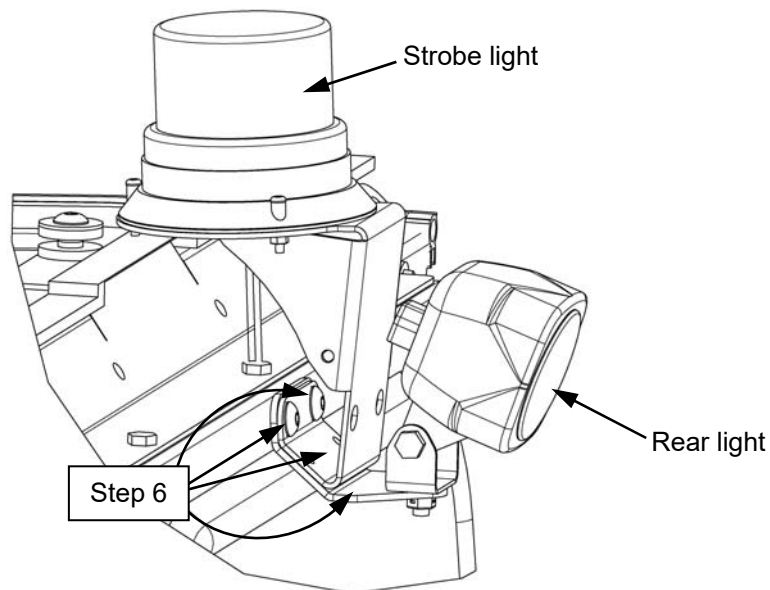

Figure 3
4. Remove the (3) rear roof bolts. Insert a block to raise the back of the roof, 2 to 3".
5. If rear work light is installed, remove bolts that secure light bracket to cab. If there is no rear work light, locate and remove the (2) 3/8" hole plugs located above the upper rear window (**Figure 3**).
6. If rear work light is to be installed or re-installed, place rear work light with bracket against the rear window panel first and then attach strobe light and bracket to rear of cab. Secure using (2) 5/16" x 3/4" long button head bolts (Item 6) and (2) 5/16" flange nuts (Item 7) (**Figure 3**). Rear light may need to be tipped down when tightening button truss head bolts.